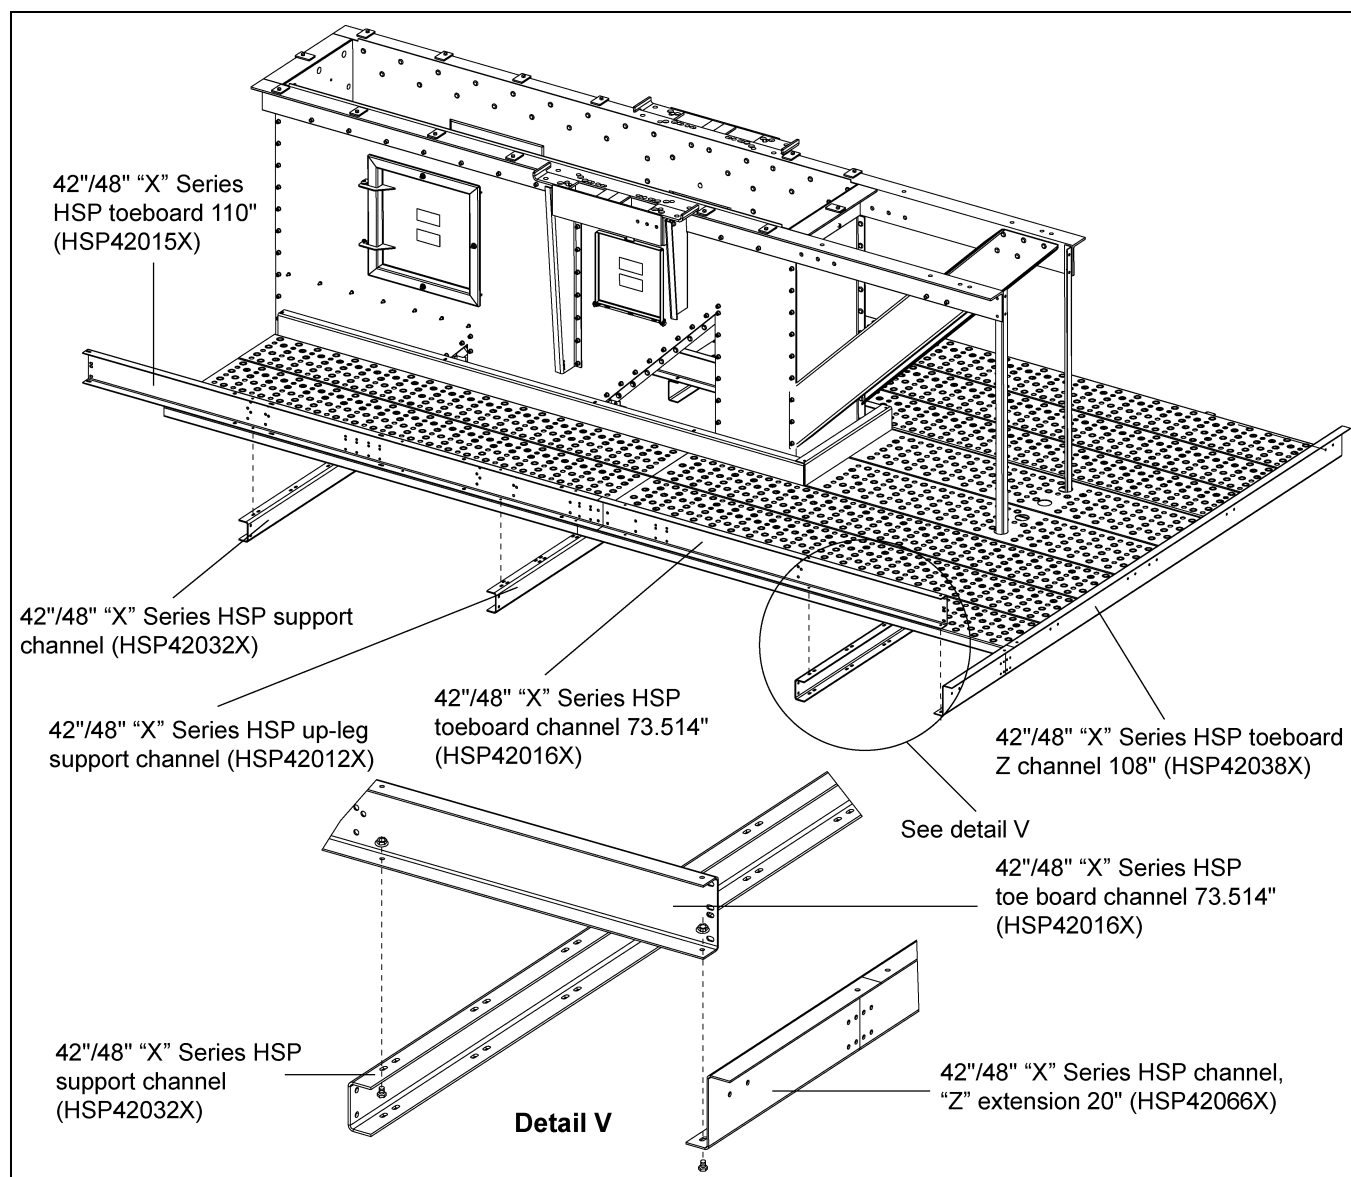

Figure 8K
5. Install the "Z" toe board (HSP42036X) on the hatch side at the down-leg end. Fasten to the ends of the toe boards (HSP42015X and HSP42018X) using 5/16" x 1" flange bolts (S-7440) and 5/16" flange nuts (S-3611). (See Figure 8K.)